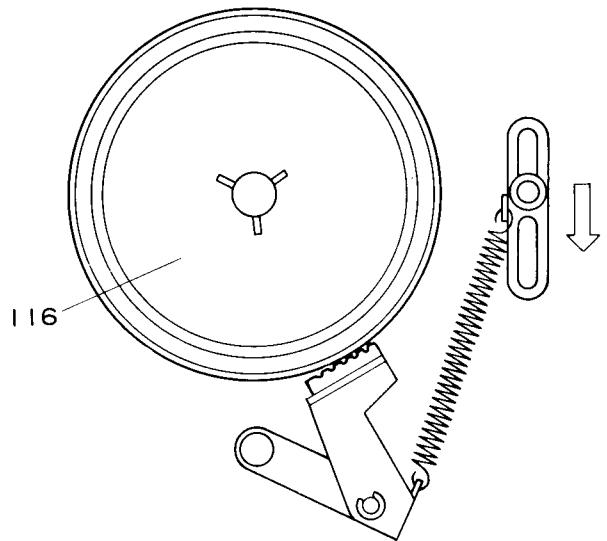

Fig. 13
* SUPPLY REEL SPINDLE (Refer to Fig. 13)
- (1) Put a 7-inch test reel on the supply reel spindle.
- (2) Hook a tension gauge on the reel and pull it in the direction at right angle to the center of the reel.
- (3) If the set is normal, the value is 240 ± 60 g.cm in clockwise and 450 ± 150 g.cm in counterclockwise.
- (4) If the value is out of this range, adjust it as follows.
- 1) When the value is lower than the normal value, move the adjusting plate (067) in opposite direction to the arrow in Fig. 13.
- 2) When it is higher than the normal value, move the adjusting plate (067) in the arrow direction as shown in Fig. 13.